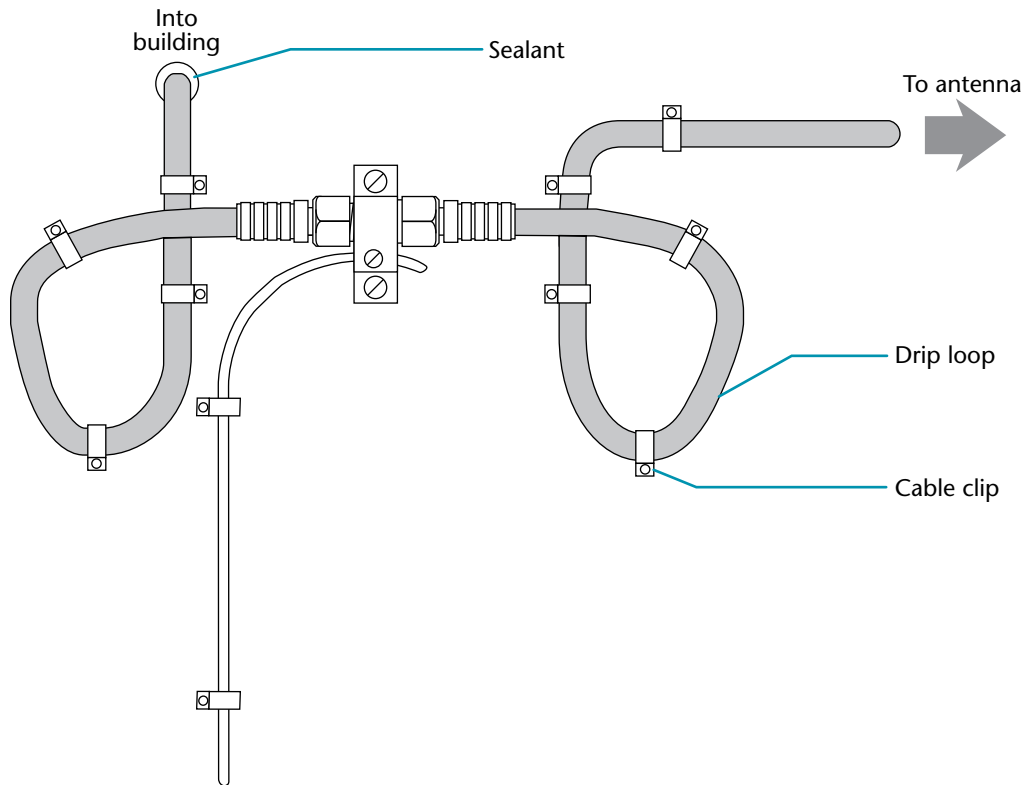

Figure 4-56. LNB cable installation
2. Connect one end of the cable to the ground block (see figure 4-56).